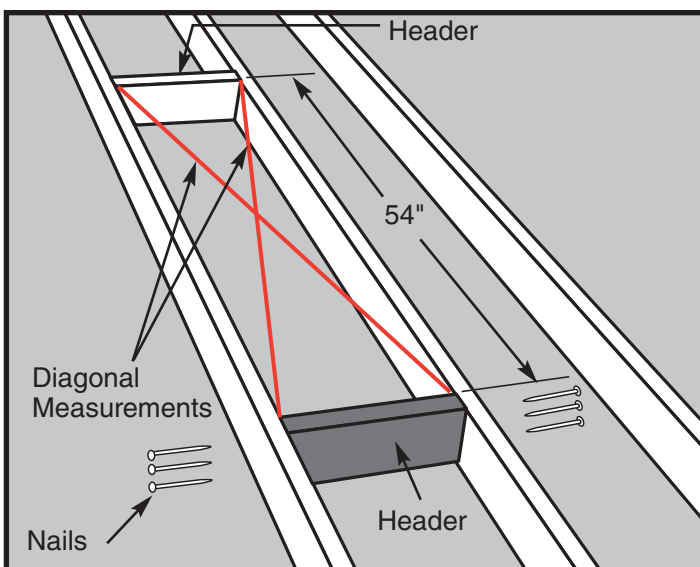

Figure 13 How to check for square
- STEP 5.** Position the second header 54" from the first one and repeat Step 4 (See Figure 13).
- STEP 6.** The frame for the rough opening requires four sides. The headers make up two of those sides. If your ceiling joists are spaced so that they make up the other two sides of the rough opening, check the opening for squareness by measuring across the diagonals. The measurements should be within 1/8" to be considered square (See Figure 13).